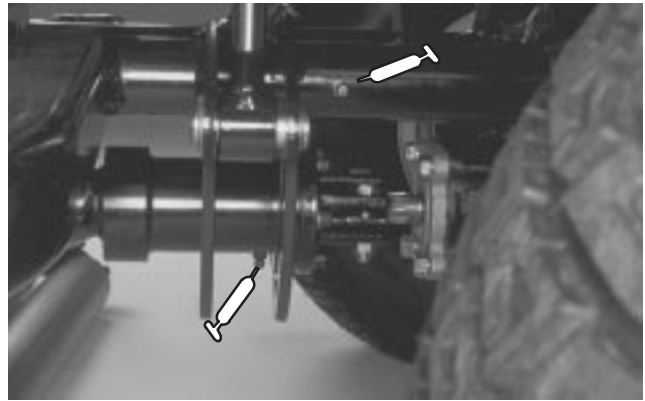
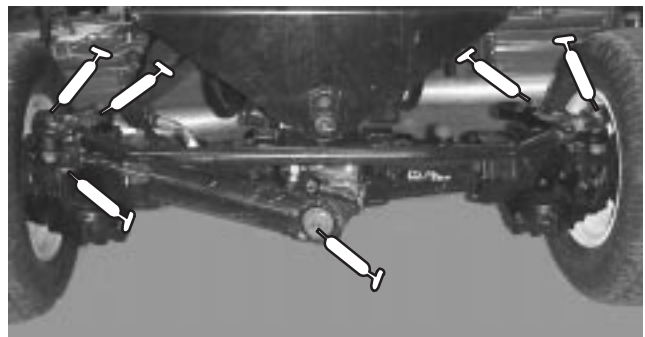
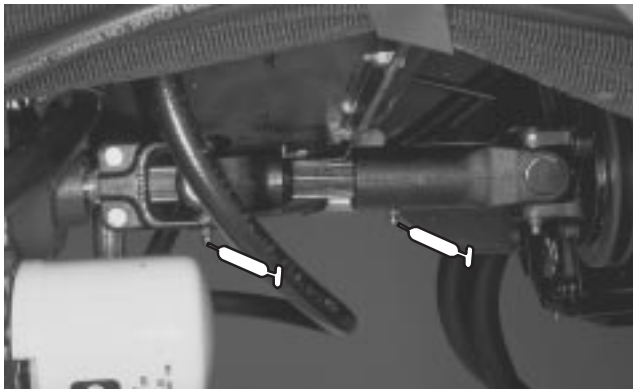
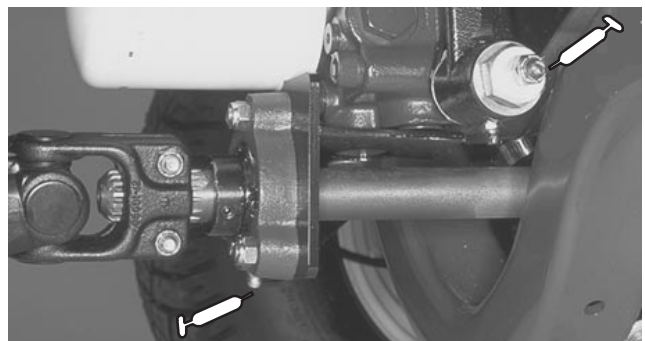

Figure 39
Figure 40
Figure 37
Figure 41
(Fig. 37 – 44)
1. The grease fitting locations and quantities are: Engine Drive shaft (3), (Fig. 37); Cutting unit carrier frame and pivot (2 ea.), (Fig. 38); Lift arm pivots (5), Drive shaft clutch (1) (Fig. 39); Rear axle tie rod (2), Steering cylinder ball joints (2), Axle steering pivots (2) Rear axle pivot (1) (Fig. 40); Traction control linkage at transmission (1), Drive shaft support bearing (1), Rear axle drive shaft (3) (Fig. 41); Brake pedal (1) (Fig. 42); Lift cylinders (5) (Fig. 43) and Fan shaft (Fig. 44).